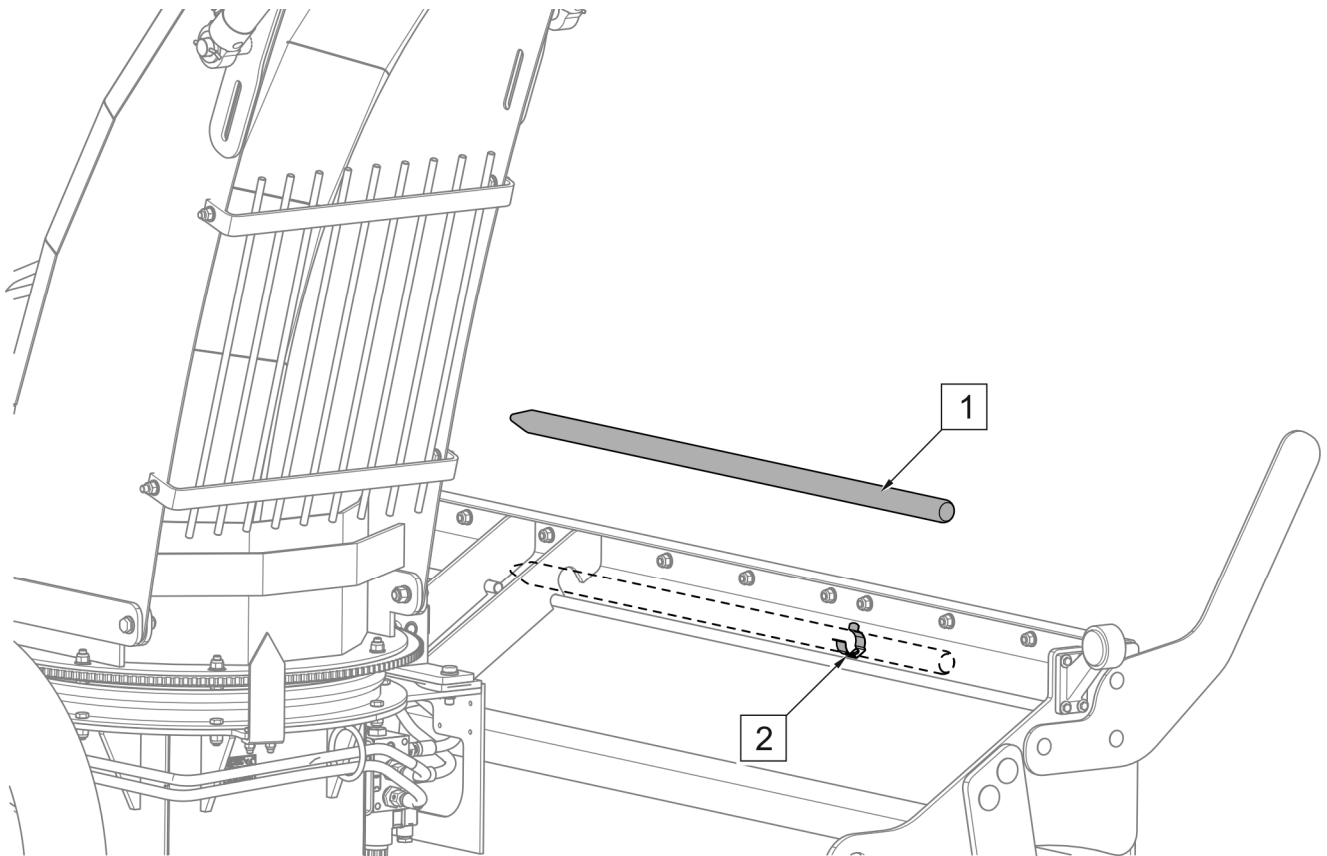

FIGURE 4.16 Removing blockages
A wooden peg (FIGURE 4.16) supplied with the machine is used for removing blockages. The peg (1) is fixed on the right side of the machine housing.